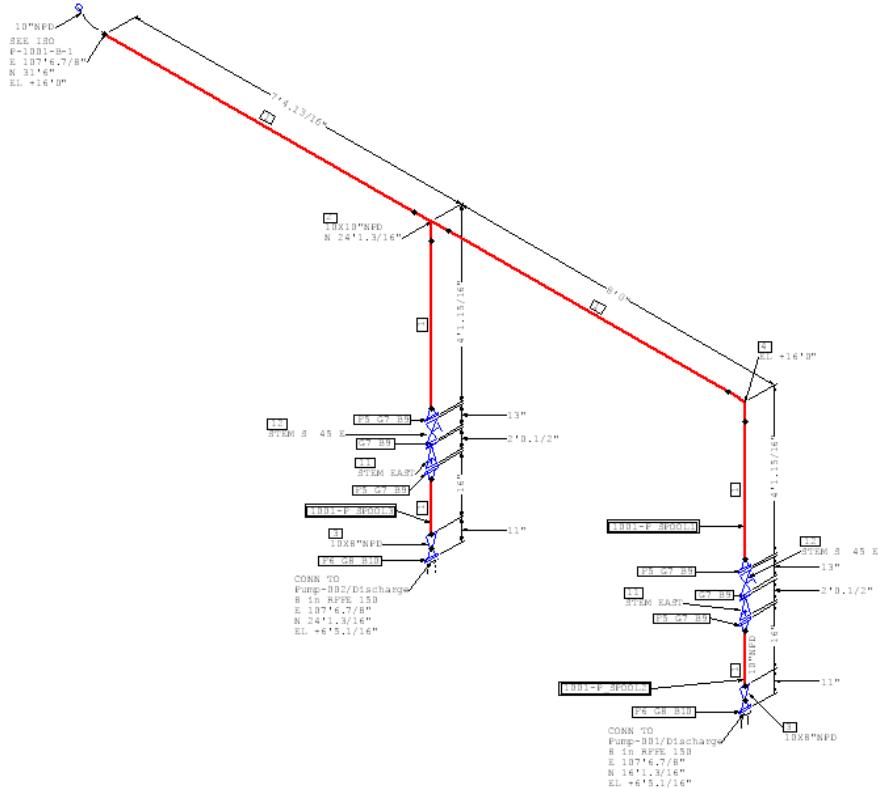

Figure 66: Isometric Drawing from WBS P-1001-A-1
- After the updation is complete, double-click the isometric drawings created for the WBS items one by one. A pictorial representation of both isometrics will be displayed, as shown in Figures 66 and 67.